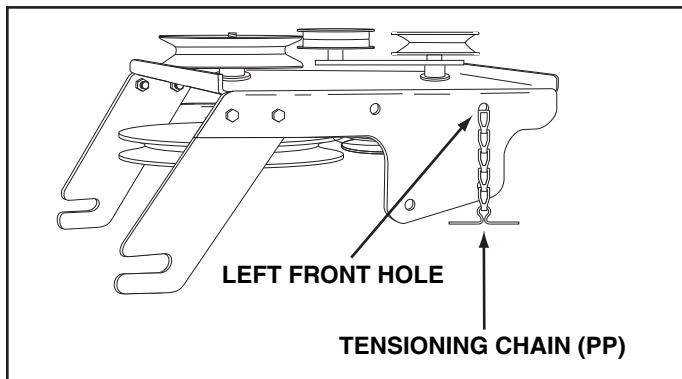

FIGURE 42
STEP 42: (SEE FIGURE 42)
- Place the extra tensioning chain (PP) through the left front hole in the clutch/idler assembly and then turn the assembly upside down.